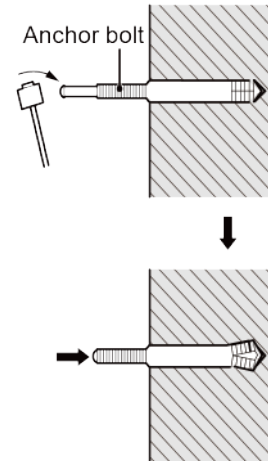

Fig.4.1.2.1(b)
- (2) Insert the anchor bolts into the drilled holes, and drive the pins completely into the anchor bolts with a hammer, as shown in Fig.4.1.2.1(b).